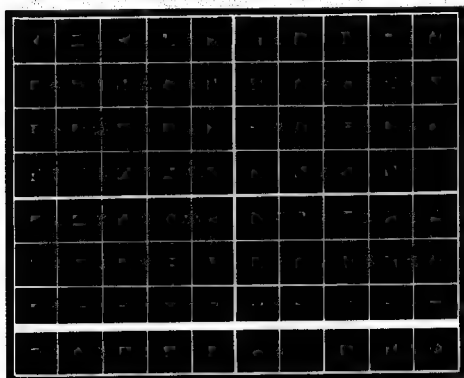
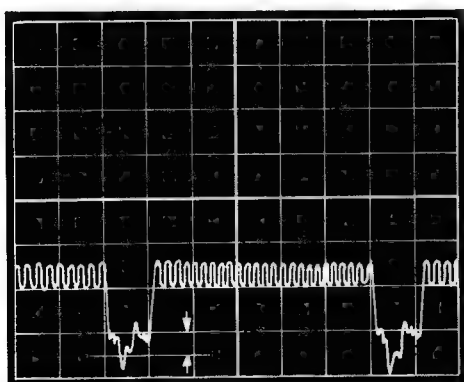
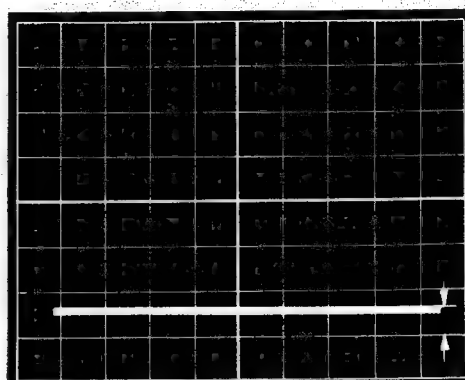

Fig. 5-2
Fig. 5-3 Sync tip level shift
Fig. 5-4 Clamp level
- e. Check to see that the sync tip of the composite signal sinks below the second division (See Fig. 5-2) by approx. 0.5V. Measure the exact voltage by which the sync tip sinks below the champ reference level set in Step 7-c (Fig. 5-2). See Fig. 5-3.
- g. Adjust scope STABILITY to observe a horizontal trace on the same position as seen on Fig. 5-2.
- h. Adjust R128 so that the horizontal trace on the scope moves up by the voltage measured in Step 7-e (Fig. 5-3). See Fig. 5-4.